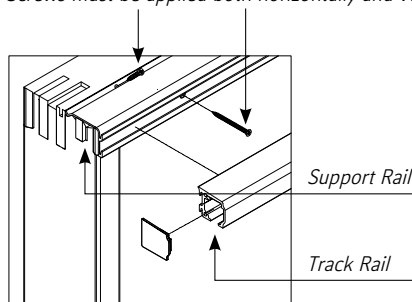

Figure 4
- Then insert the wheels into the track rail – and finally mount the end cap, which locks the support and track rails together (figure 4).